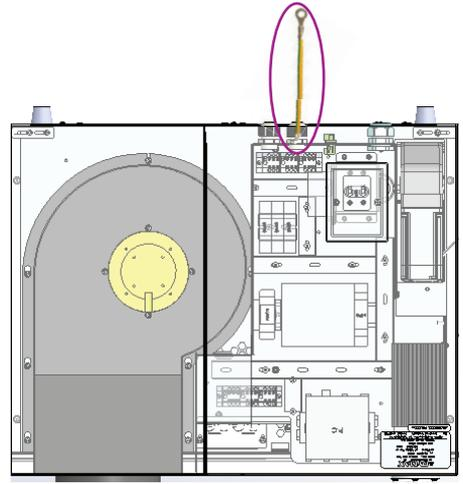
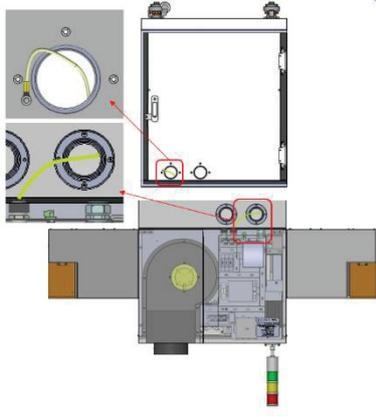

Figure 28.
Figure 29.
2) The conveyor may be grounded by using the reserve grounding wire. (Figure 28.) If the cabinet is in use, the grounding wire can be connected to the grounding column in the cabinet. (Figure 29.)